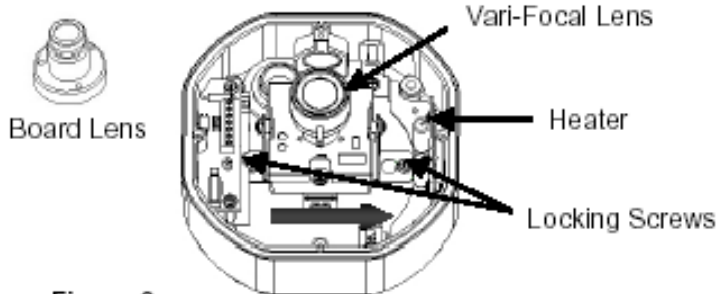

Figure 3
2. Remove the camera. To remove the camera, first unplug the wire connection on the back of the camera. Then loosen the 2 locking screws on the camera base, push the camera base to the right (toward heater direction, as shown in Figure 3), remove the camera from the mounting base. Reinstall the camera and the cable while the base mounting is completed.